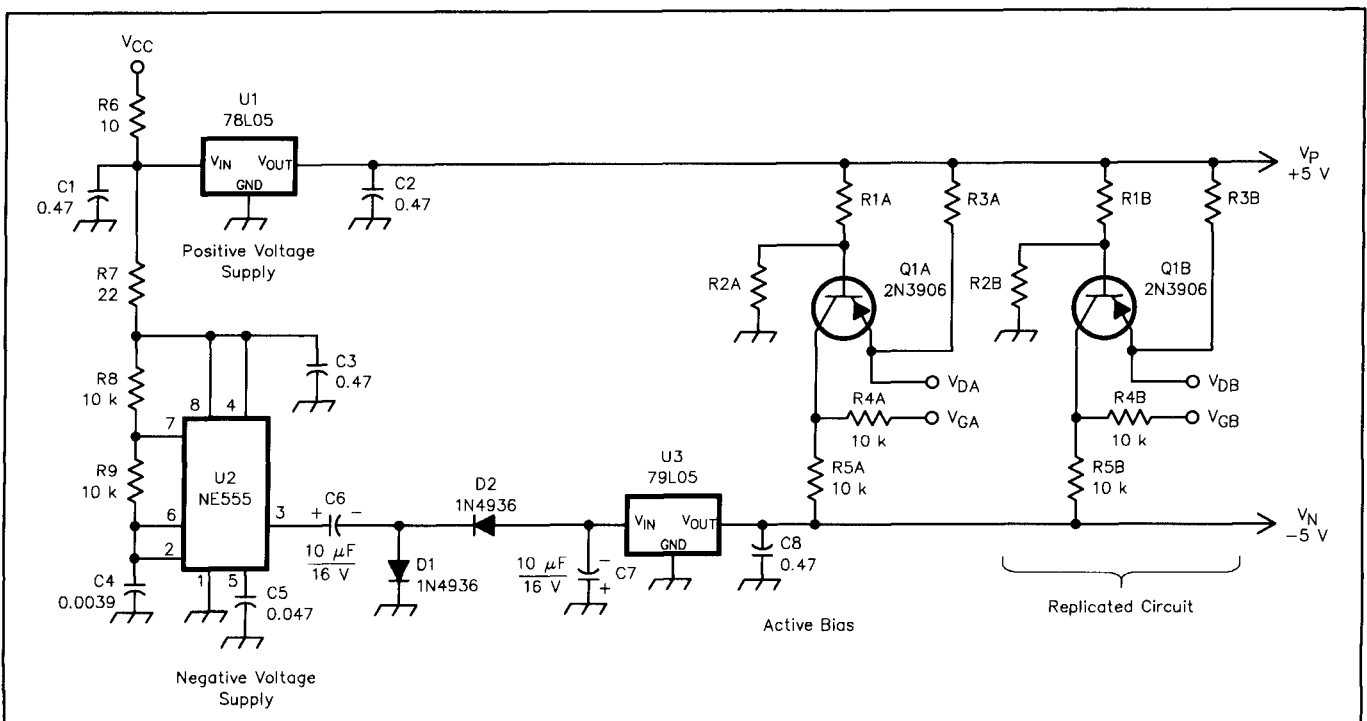

Fig 1—Schematic of the GaAsFET amplifier power supply.
To RF, the PIN diode looks like a small resistor when forward biased, and like a small capacitor with zero or reverse bias. A simple narrow-band switch that has good performance is shown in Fig 1. In transmit mode, a positive bias voltage is applied to the resistor. Both diodes are forward biased.
**Fig 1—Schematic of a PIN-diode T/R switch. See the text for information on calculating C1 and L1. C6 and L2 may be necessary in some cases; see text for details.**
The circuit of Fig 1 drives a latching relay that has only one coil. When the logic level at point A changes state, a pulse is applied to the coil of K1. The polarity of the pulse depends on whether the logic level is going from positive to negative, or negative to positive. The pulse duration depends on the coil resistance and the value of C1. Pulse duration should be long enough to drive the relay to its opposite state.
Fig 1—Latching relay driver circuit. Vcc is either 12 or 24 V dc, depending on the coil voltage of K1. The circuit shown will handle coil currents of 50-100 mA. Resistors are ¼-watt film or composition.